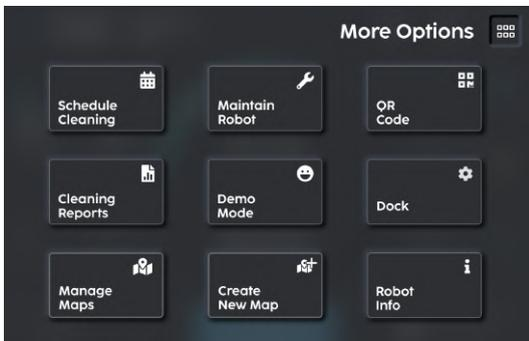

FIGURE 4-1
2. Select "Create New Map" (**Fig. 4-1**).